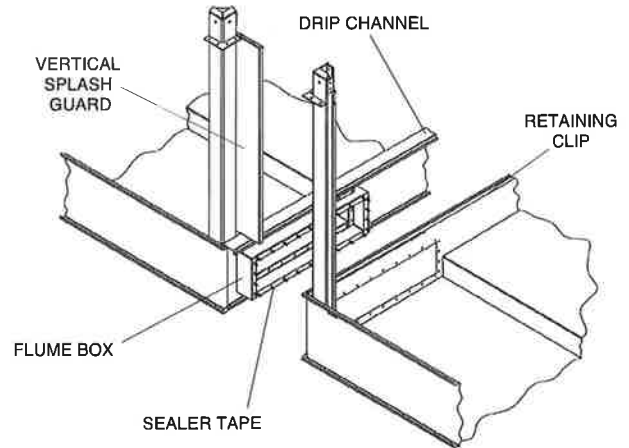

Figure 3 – Equalizer Flume Connection,
2. Clean the flanges on the equalizer flume on the end to be field connected. Apply a layer of sealer tape on the flange centered between the hole centers and the outside edge. Remove paper backing strip from the sealer tape (see Figure 3).
9. Place the vertical splash guard in the bend of the vertical supports. On galvanized units, attach the vertical splash guard using 5/16" self-tapping screws. On stainless steel units, attach the vertical splash guard using 5/16" stainless steel nuts and bolts. (see Figure 3)